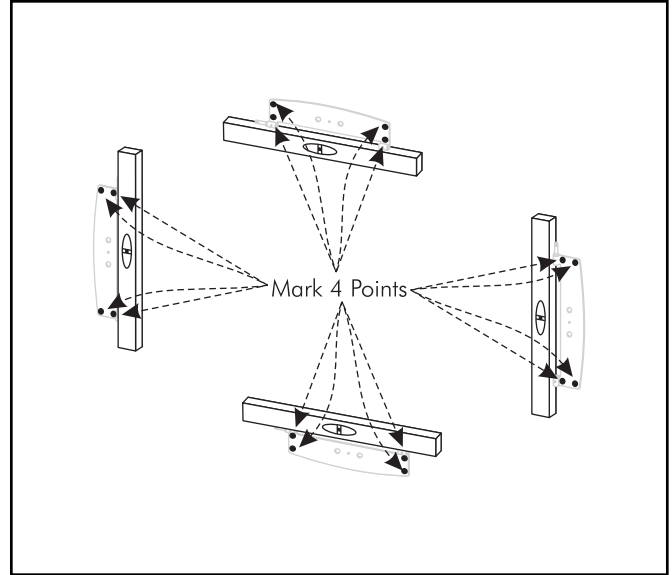

Figure 20. Use a level to square the wall bracket and mark the other 4 holes.
- 4 Using a level, square the wall bracket and hold it flush against the wall with the wall bracket's center hole over the point you just marked. The cylindrical hinges on the wall bracket should point away from the wall and the flat plane of the wall bracket should be flush against the wall. Mark 4 points inside of the wall bracket's arc shaped cut outs located at either end of the wall bracket (see figure 20).